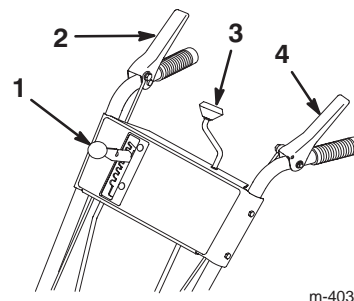

Figure 7
- Move the speed selector (Fig. 7) on the control panel to the **R₂ (Reverse)** position.